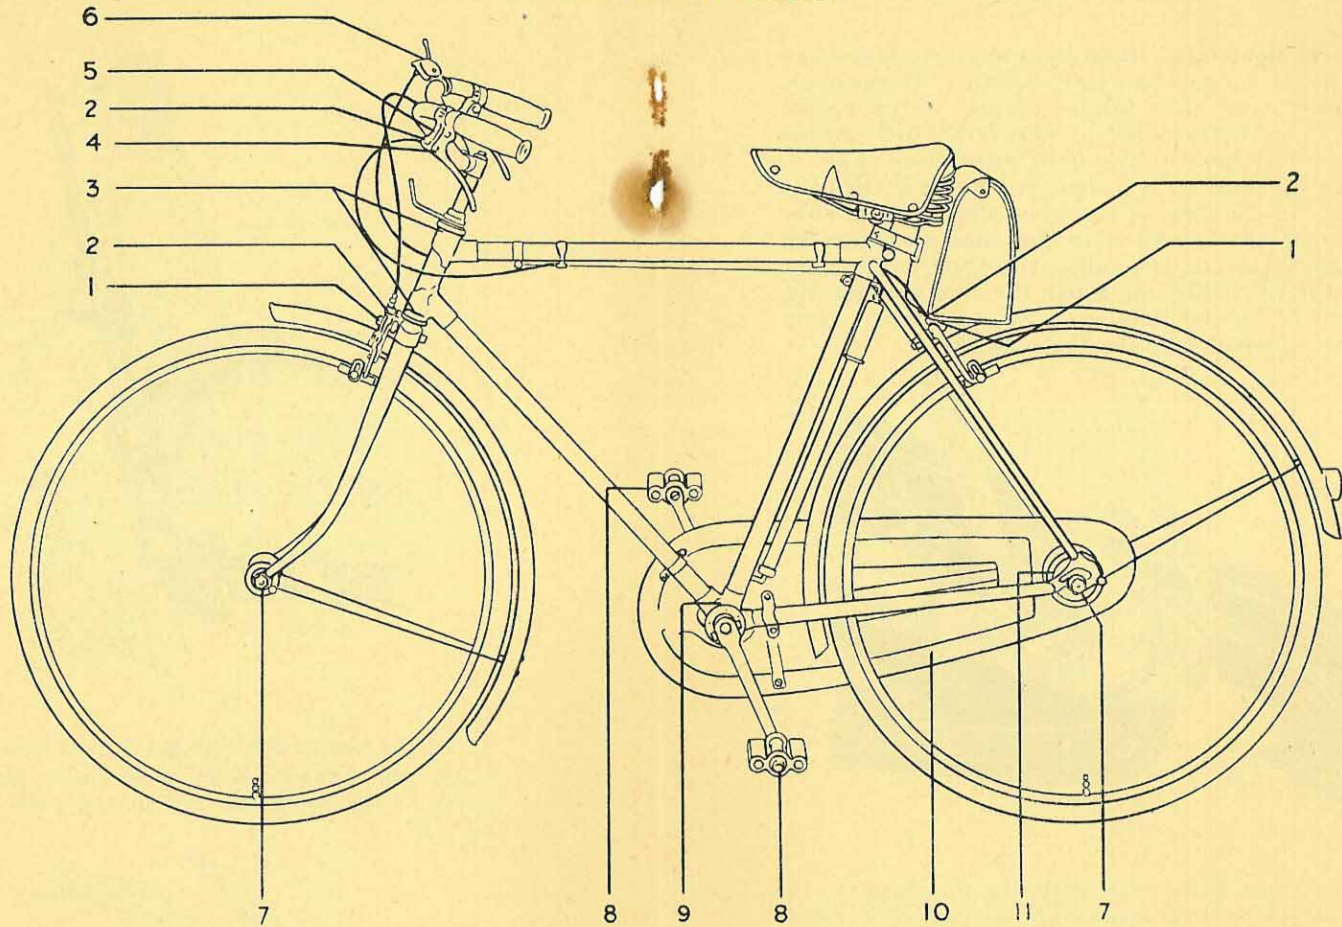

FIG. 8
- 5 **Lubrication.** Lubricate both wheel hubs, bottom bracket bearing, pedals and steering head once a fortnight, using a good quality light cycle oil; Fig. 8 shows the position of the various lubricating points. At the same time place a spot of oil on the brake lever pivots, brake guides and swivels, and in the case of three-speed and four-speed models on the gear lever and pulley and on the gear control chain where it enters the hub spindle.